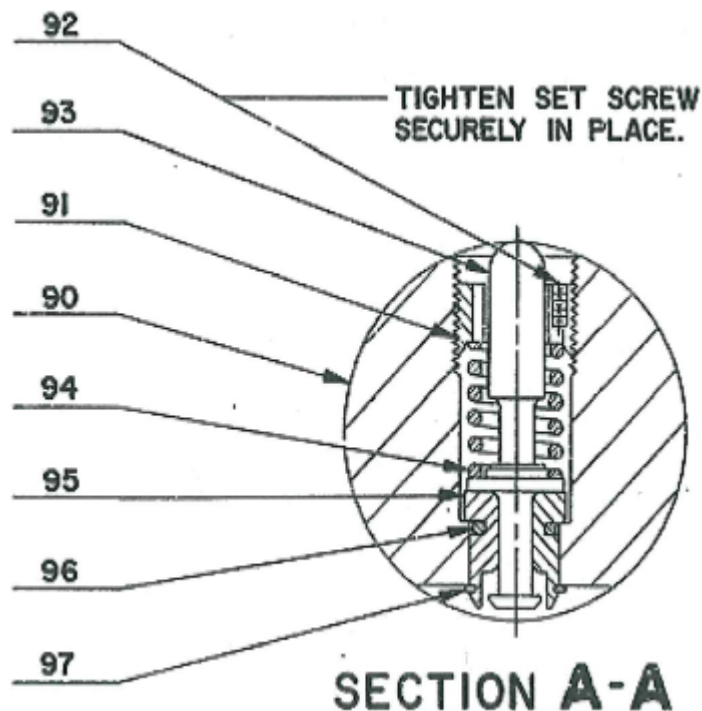

Figure E-2. Emergency Governor Cup Assembly
The overspeed governor cup assembly (Figure E-2) consists of the following parts.
turbine shaft via key and set screw. The weight is heavy at the adjusting screw end (upper part of Figure E-2, *Emergency Governor Cup Assembly*). As the shaft and cup assembly rotates, centrifugal force tends to move the weight out of the cup, compressing the spring (94). When turbine speed reaches the trip speed, centrifugal force at the weight exceeds spring retention force, causing the weight to snap out, tripping the trip linkage.